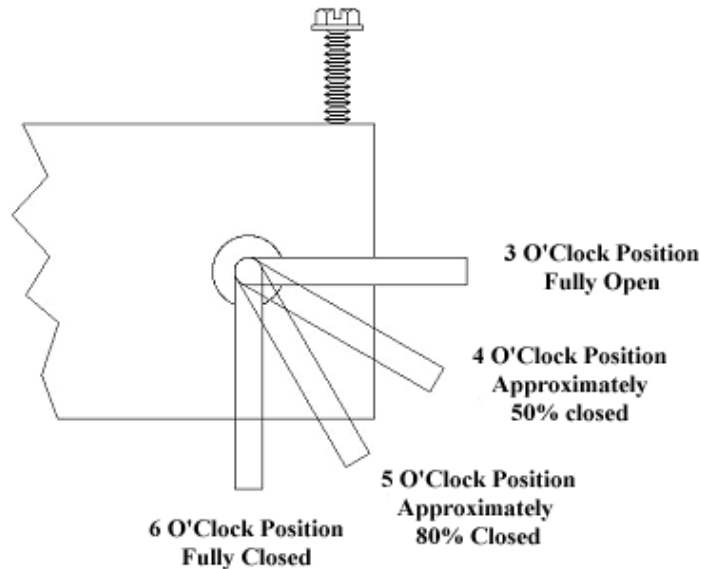

Figure 17
**If you experience problems adjusting the Furnace during the Break-In Period, contact your dealer.** The figure below may be used to gage the approximate damper setting when making an adjustment. Some chimney systems will fall outside the norm, for example, a chimney with excessive draft or one with a long horizontal run. In dealing with technical support, the terminology listed in figure 17 may be used to clarify where your damper needs to be set.